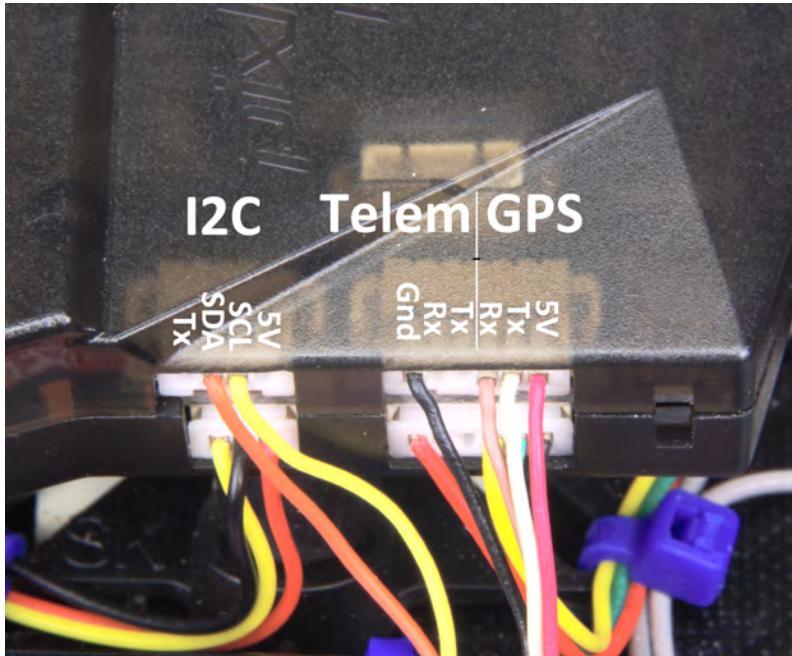

Figure 18-6 The Pixhawk Lite uses shared GPS and telemetry ports
Red almost always means positive—in this case, 5 volts—so looking at the pinout of the Pixhawk in Figure 18-6 you can see that the red and black wires must be swapped. I guessed at which wires were transmit (TX) and receive (RX), but I guessed wrong. When I powered up my flight controller, I got blinking lights on the GPS, but the controller didn’t recognize it. You can check by connecting to your ground station software. If the GPS